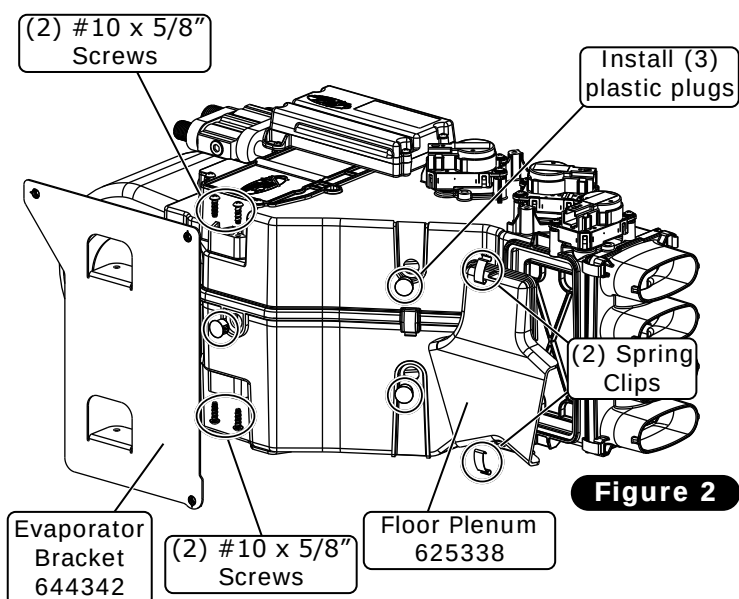

Figure 2
3. Install (3) plastic plugs at the locations shown in Figure 2, below.
4. Install the floor plenum onto the evaporator module with (2) spring clips (See Figure 2, below).
5. Install the evaporator firewall bracket onto the evaporator module with (4) #10 x 5/8" screws (See Figure 2, below).